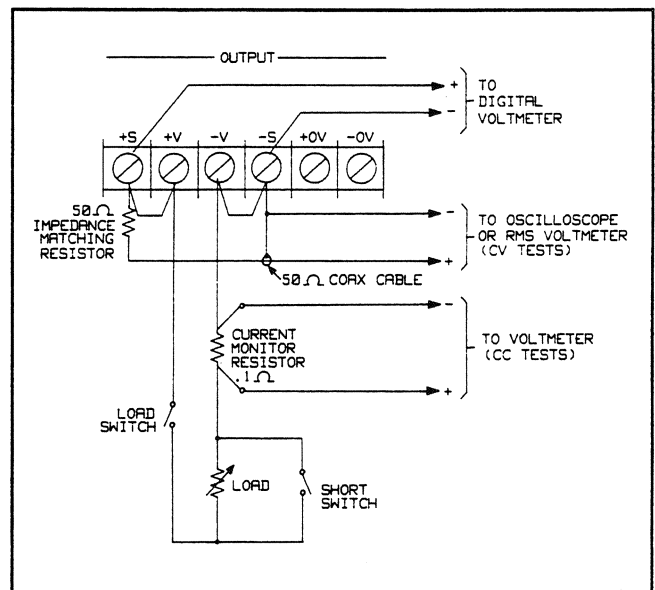

Figure 3-3. Basic Test Setup
- Turn off the supply and connect the output to be tested as shown in Figure 3-3 with the DVM connected between the +S and -S terminals, the Load switch closed, and the Short switch opened.
- Connect the output to be tested as shown in Figure 3-3 with the DVM connected between the + S and - S terminals, the Load switch closed, and the Short switch opened.
- Turn off the supply and connect the output to be tested as shown in Figure 3-3 to an oscilloscope (ac coupled) between the +S and -S terminals, the Load switch closed, and the Short switch opened. Be sure to keep the leads from the 50 ohm impedance matching resistor and the 50 ohm coaxial cable shield that run to the + S and - S terminals as short as possible to avoid external noise pickup.